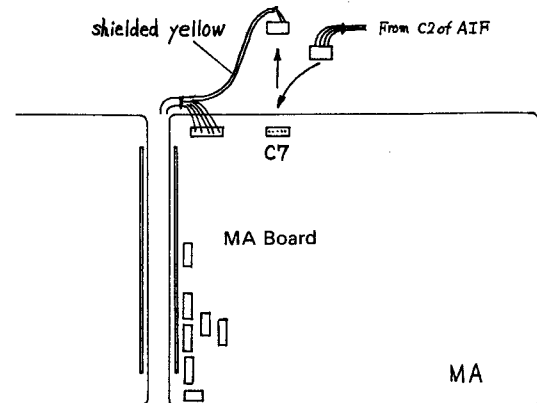

Fig. 8
17. Disconnect the 5 pin socket to connector C7 of the MA circuit board. Using tape or a cable tie, secure this cable in a location where it will not generate rattles, or short circuit possibilities (This connector is not used). Now, connect the loose end of the 5 conductor cable Connected to C2 of the AIF circuit board in step #10, to connector C7 of the MA circuit board (see figure 8).
20. Lower the control panel to its normal position, and reinstall retaining screws (2).